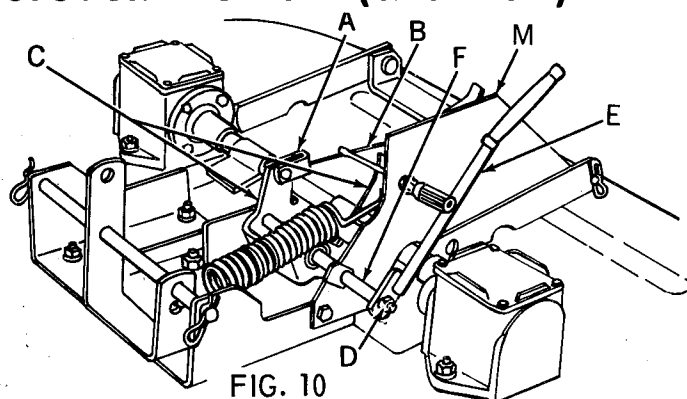
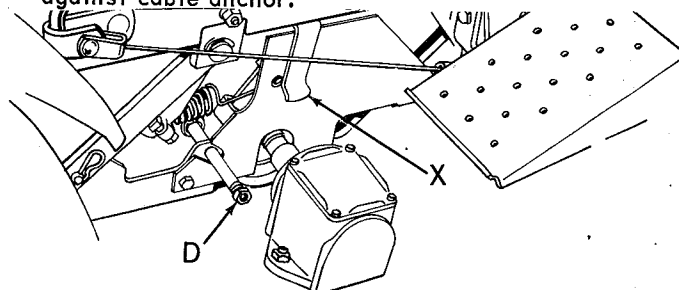

FIG. 10
FIG. 18
1. Refer to Fig. 10. Assemble clevis (A), on cable (B), to idler bracket (C), with rivet pin, and cotter pin provided.
2. Remove nut (D) from end of control arm assembly. Slip blade clutch handle (E) found in plastic bag with decal on control arm assembly (F) and replace nut (D).
4. Refer to Fig. 10. Rotate blade clutch handle (E) forward. Lock in that position, by inserting screw driver or similar tool, back of handle (E), through hole in pulley guard (M), and back of idler bracket (C) as shown.
12. Refer to Fig. 18. Rotate blade clutch handle (E) forward, and remove screwdriver or similar tool, which was holding idler bracket forward. Remove nut (D), Fig. 18 and blade clutch handle (E), Fig. 10 from control arm assembly. Replace nut on shaft to protect threads. Save blade clutch handle. This handle will be used as mentioned above to hold idler bracket while removing or assembling mower to tractor.
13. Refer to Fig. 18. Lower mower by depressing button on top of lift lever, and moving lever forward. Assemble pulley guard guide (X) to tractor frame as shown. Secure with round head mach. screw (head to inside), lockwasher, and hex nut provided. Tighten nut securely.